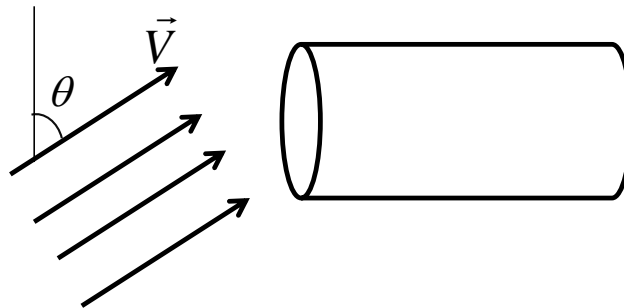

Fig. 6.
**Q14.** Consider the fluid having a uniform velocity  $V$ , flowing into the cylindrical tube with the cross section area  $A$ , as shown in Fig. 6. The volumetric flow rate ( $Q$ ) inside the tube can be calculated from: